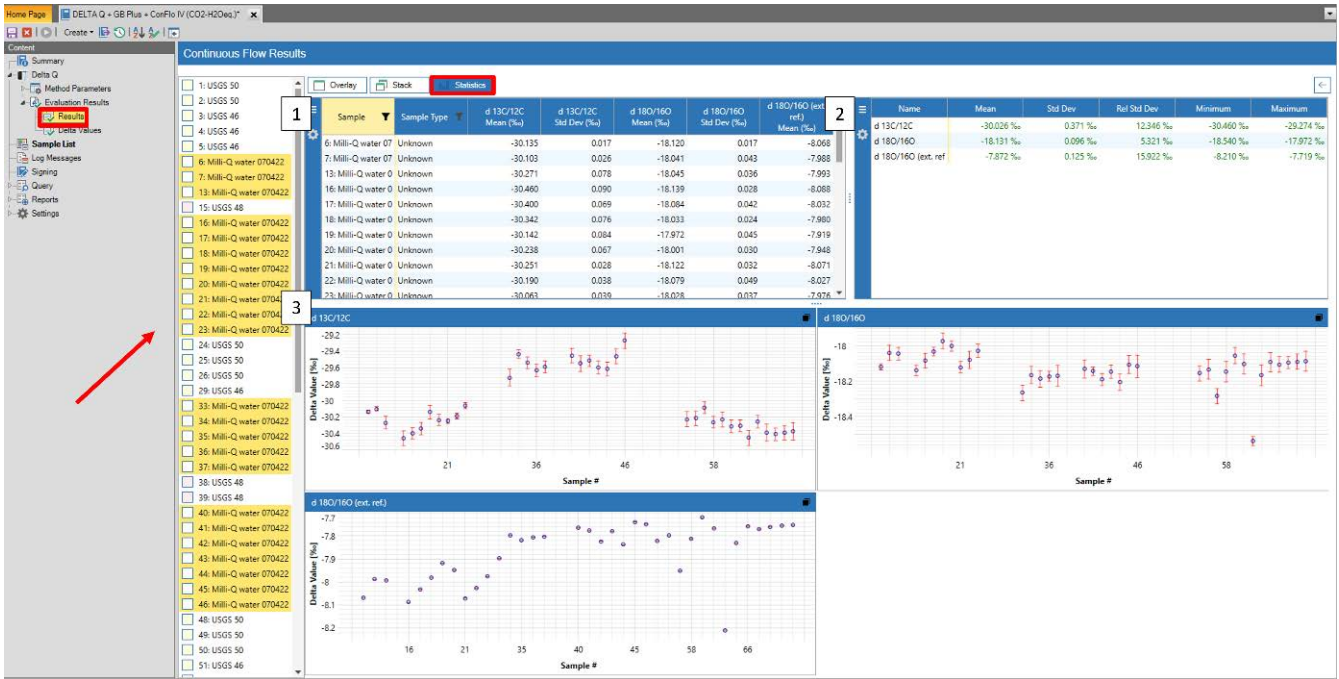

Figure 7-44. Statistics view across several samples
When  **Statistics** is chosen in the Results View and several samples are selected in the vertical sample overview, then the Statistics View across several samples is opened (see Figure 7-44). It allows to visualize the results gained during the GasBench IRMS run and to compare the results of selected samples. This is a powerful tool to interpret the results.
3. plots illustrating each calculated delta value vs. Run ID (see Figure 7-44).